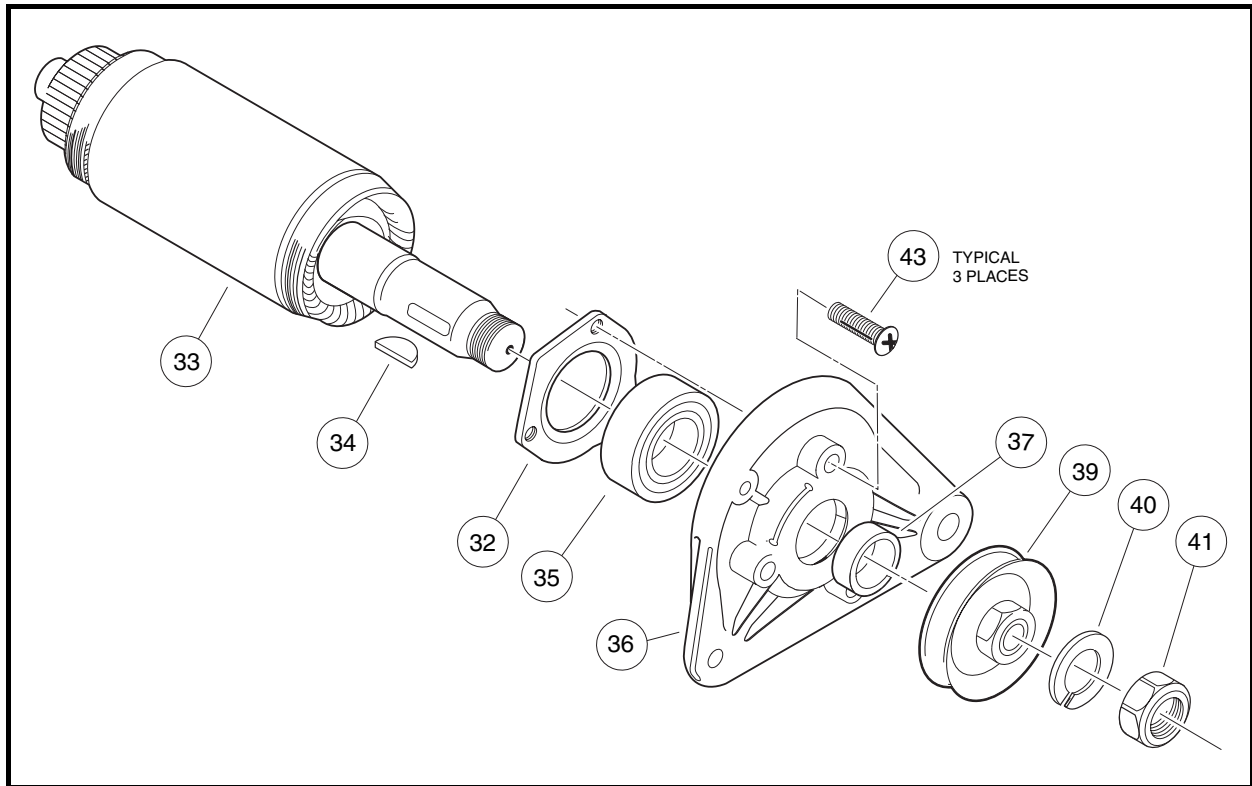
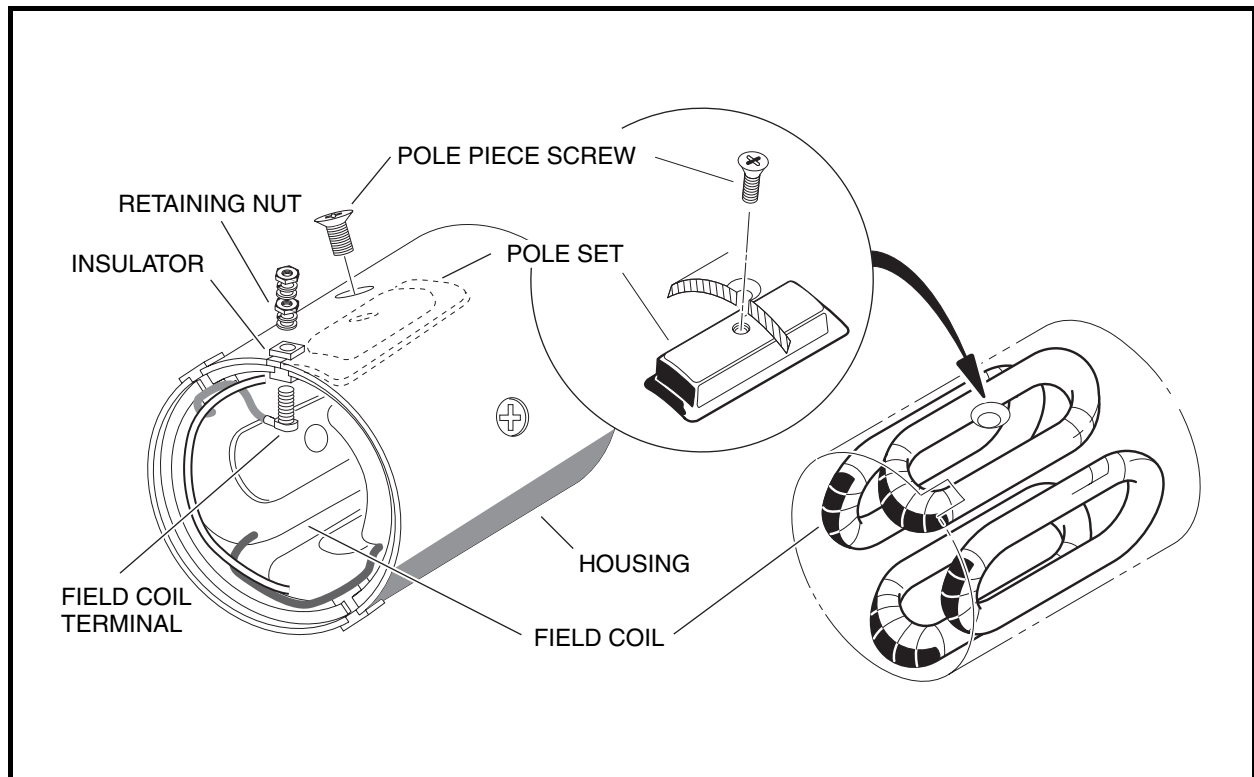

Figure 12-7 Armature and Output End Cover Assembly
Figure 12-10 Field Coil Assembly
3. To separate armature (33) from output end cover (36), remove nut (41), lock washer (40), pulley (39), shaft key (34), spacer (37), and bearing retainer screws (43) **(Figure 12-7, Page 12-5)**.
3. Slide the bearing retainer (32) off of the output end of the shaft (**Figure 12-7, Page 12-5**).
1. Remove the retaining nut from each field coil terminal and slide the insulator out of the slots in the housing. Remove the four pole piece screws from the housing. Remove the four pole pieces from inside the housing. Remove the field coils from the inside of the housing (**Figure 12-10, Page 12-7**). **See following NOTE.**
NOTE: Do not remove the insulators or the field coils unless an electrical test indicates that it is necessary (**Figure 12-10, Page 12-7**). See **Test Procedure 8, Section 11, Page 11-15**.
2. After the insulators are seated in the slots, install the threaded terminals through the wire connectors and then through the insulators. Install a flat washer, lock washer and nut onto each threaded terminal on the outside of the housing. Tighten nuts to 47.5 in-lb (5.4 N·m) **(Figure 12-10, Page 12-7)**.
3. Install the four pole pieces into the housing. Use the four screws to secure pole pieces to the inside of the housing to retain the field wires. Tighten screws to 9 ft-lb (12.2 N·m) **(Figure 12-10, Page 12-7)**.
4. Slide the bearing retainer onto the output end of the armature shaft (33) so that it will hold the outside of the bearing (35) only.
5. Press a new ball bearing (35) onto the output end of the armature **(Figure 12-7, Page 12-5)**. Press a new ball bearing onto the commutator end of the armature shaft. **See following CAUTION.**
6. Install the output end cover (36) onto the armature. Secure the bearing retainer (32) to the cover and tighten the screws (43) to 39 in-lb (4.4 N·m) (**Figure 12-7, Page 12-5**).
11. Slide the spacer (37) onto the end of the shaft. Insert the shaft key (34) into the shaft. Install the belt pulley (39) onto the shaft, and install the lock washer (40) and M14 nut (41). Tighten the nut to 28 ft-lb (38.0 N·m) (**Figure 12-7, Page 12-5**).